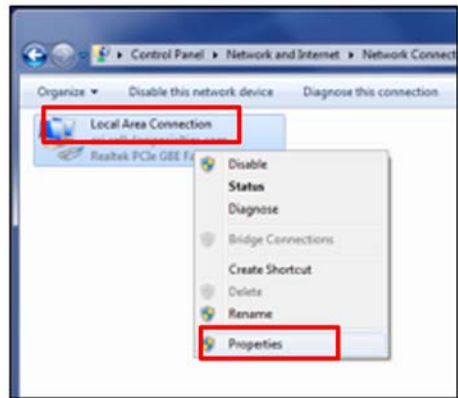

Figure 4-17: Local Area Network
4. Right click **Local Area Connections** and select **Properties** as shown in Figure 4-17.